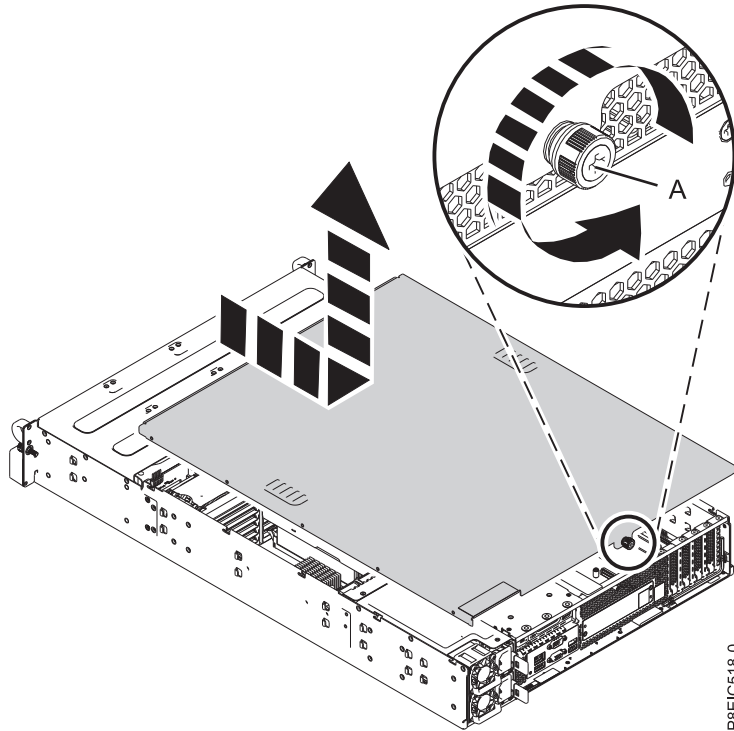

Figure 50. Removing the service cover
1. At the rear of the system, loosen the cover screw (A) that fastens the cover to the chassis. See Figure 50 on page 79.